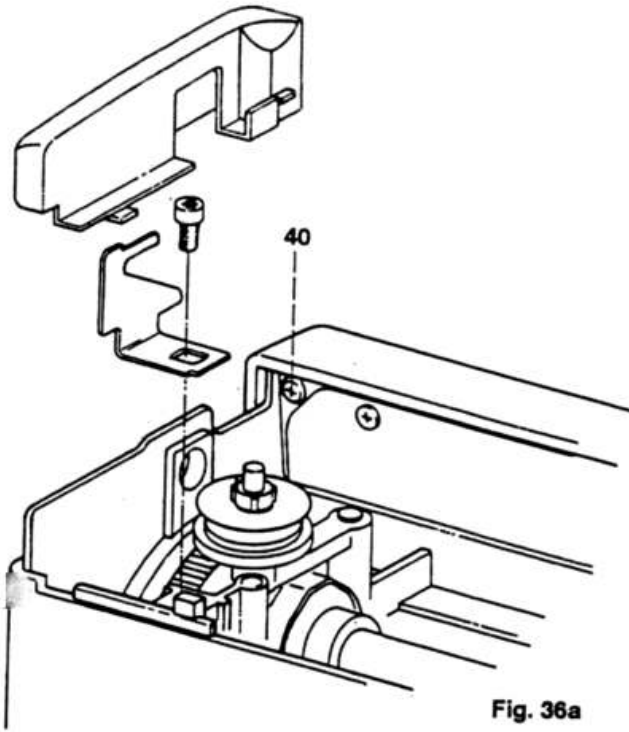

Fig. 36a
- Unscrew the Torx screw and remove the angle (fig. 36a).